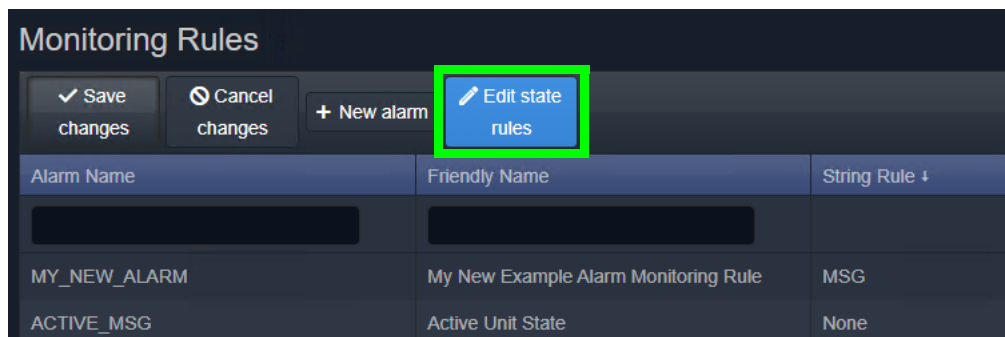
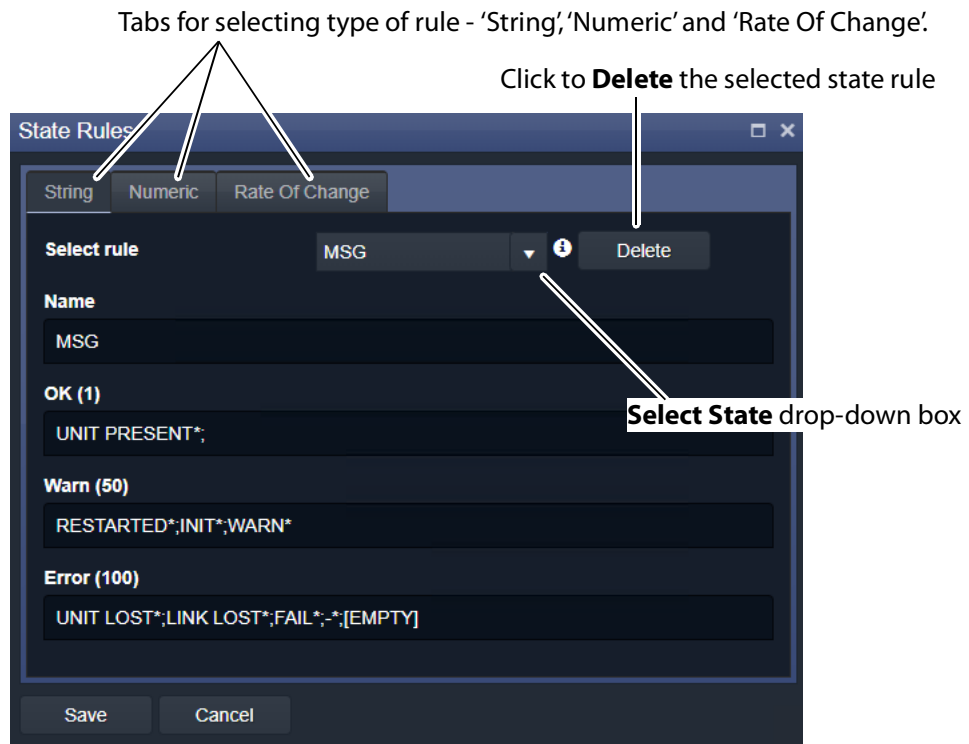

Figure 68: Edit State Rules Button
Figure 69: State Rules Dialog
- 1 Click **Edit State Rules** in the **Monitoring Rules** configuration screen, see Figure 68. The **State Rules** dialog is shown, see Figure 69.